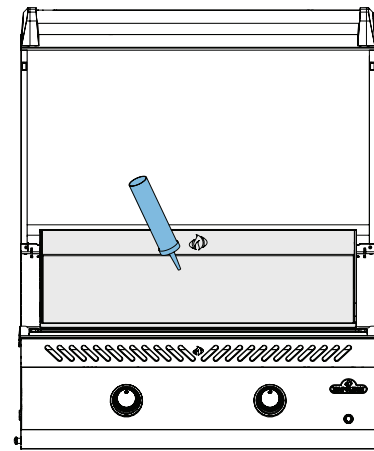

Fig. 2
- The griddle plate should be oiled before cooking to prevent food from sticking. See **Can You Season a Stainless Steel Griddle?** (Fig. 2)